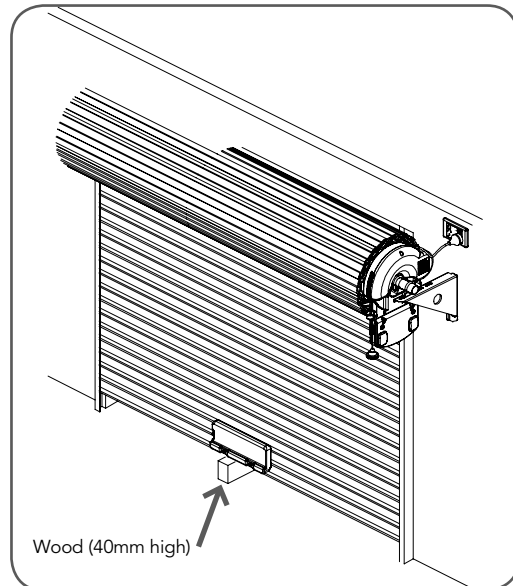

fig 16
- Place a piece of timber approximately 40mm high on the floor directly under the door (**Fig. 16**).